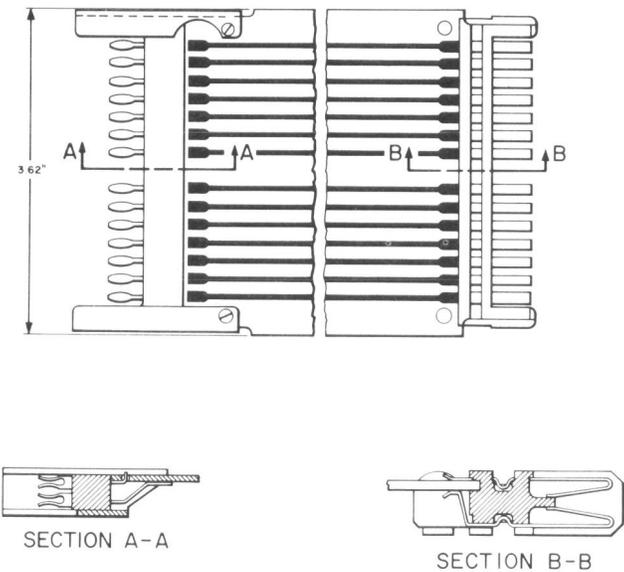

Fig. 6—728B Extender Tool
2.15 728B: The 728B extender tool (Fig. 6) permits circuit packs in the No. 101 ESS to be extended for testing purposes. This extender has 28 terminals.